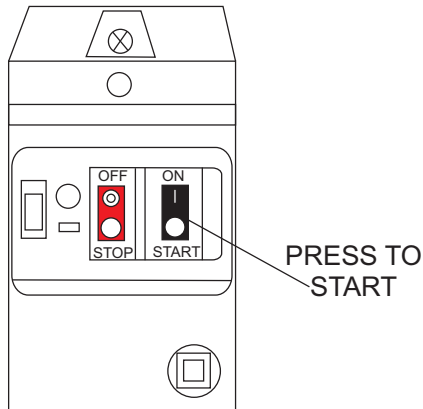

Figure 22. Electric Motor On/OFF Switch (Start)
2. To start the electric motor, press the black **ON/START** switch (Figure 22).